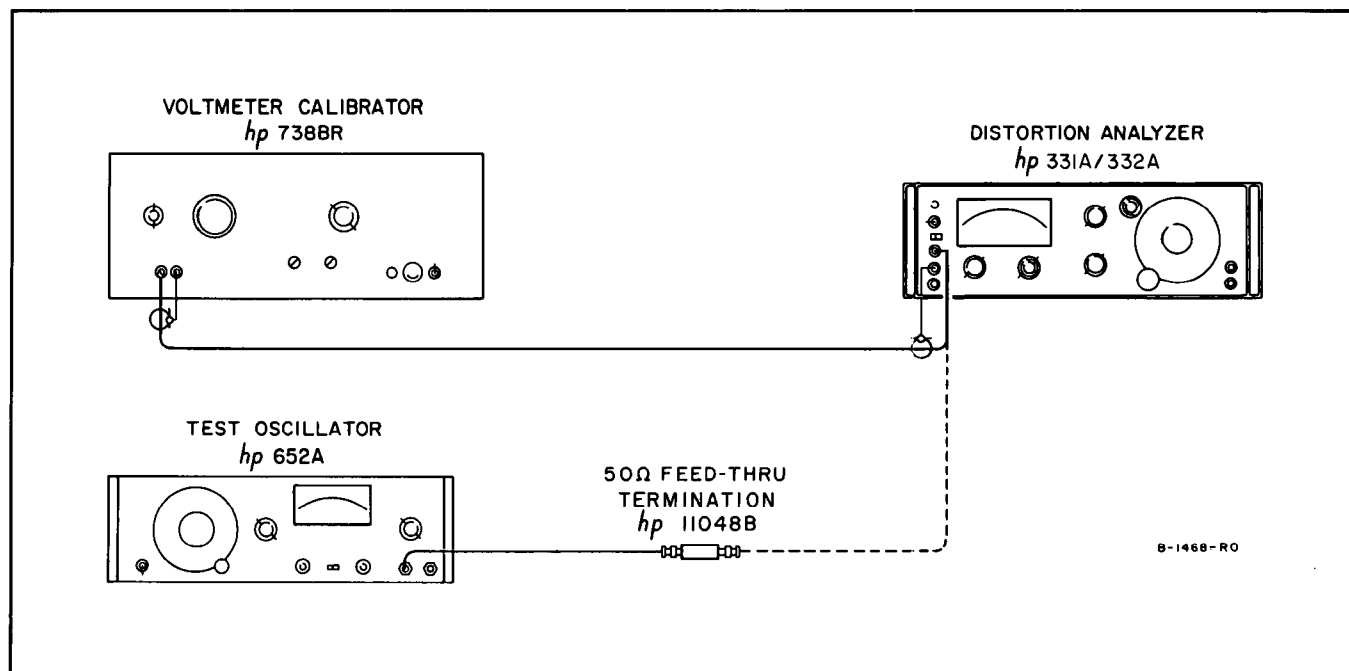

Figure 5-6. Voltmeter Accuracy and Frequency Response Check
- a. Connect voltmeter calibrator to 331A/332A as shown in Figure 5-6. Test oscillator will be used later in check.
- a. Connect voltmeter calibrator to 331A/332A as shown in Figure 5-6.
- a. Connect test oscillator to 331A/332A as shown in Figure 5-6.